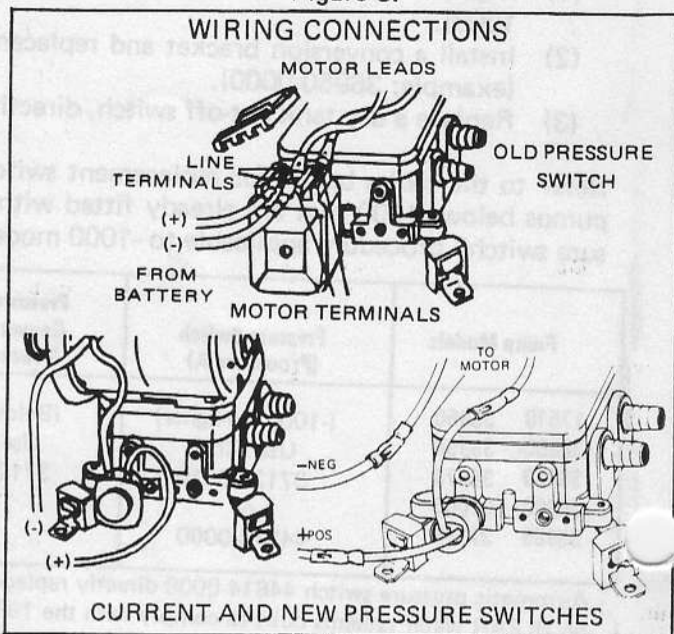

Figure 4.
6. Connect one of the motor leads to the negative power lead from the battery using a butt splice connector. Crimp connector firmly in two places over bare wire ends. Connect a butt connector between other motor lead and one switch lead. Crimp connector firmly over bare wire ends. Connect other switch lead to fuse protected positive power lead from battery (see Figure 4).